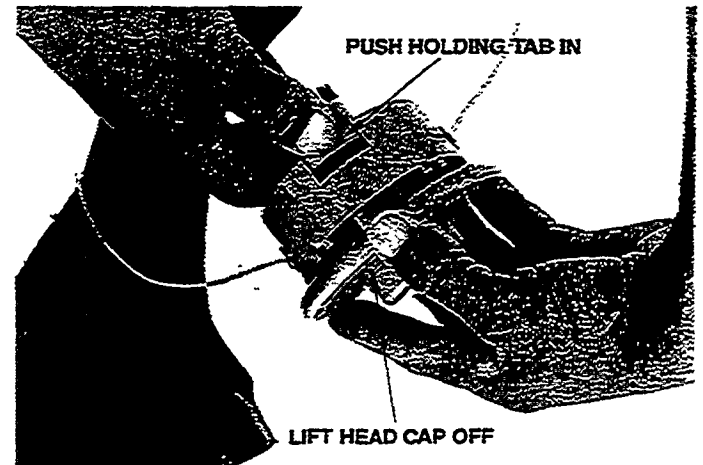

Figure 14
- Remove head cap by pushing in on one of the holding tabs (Fig. 14) and lifting the head cap. Once both tabs have released, remove cap and lift out spool.